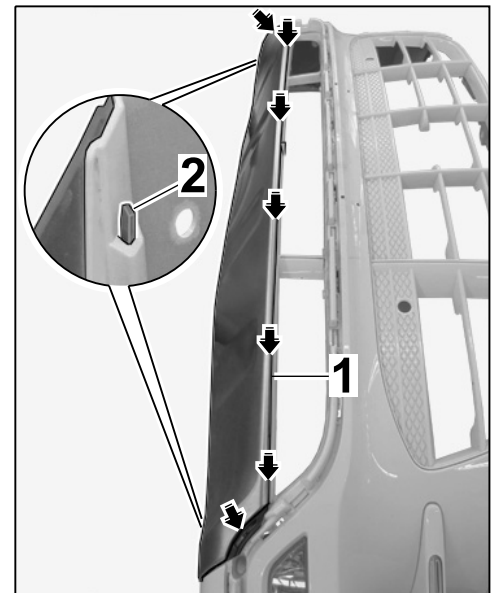

Figure 13
2.6.1 Position the front spoiler in the gap on the front apron with the help of another mechanic (⇒ *Figure 13 -Arrows-*).
2.6.2 Guide outer tabs into the front apron (⇒ *Figure 13*).